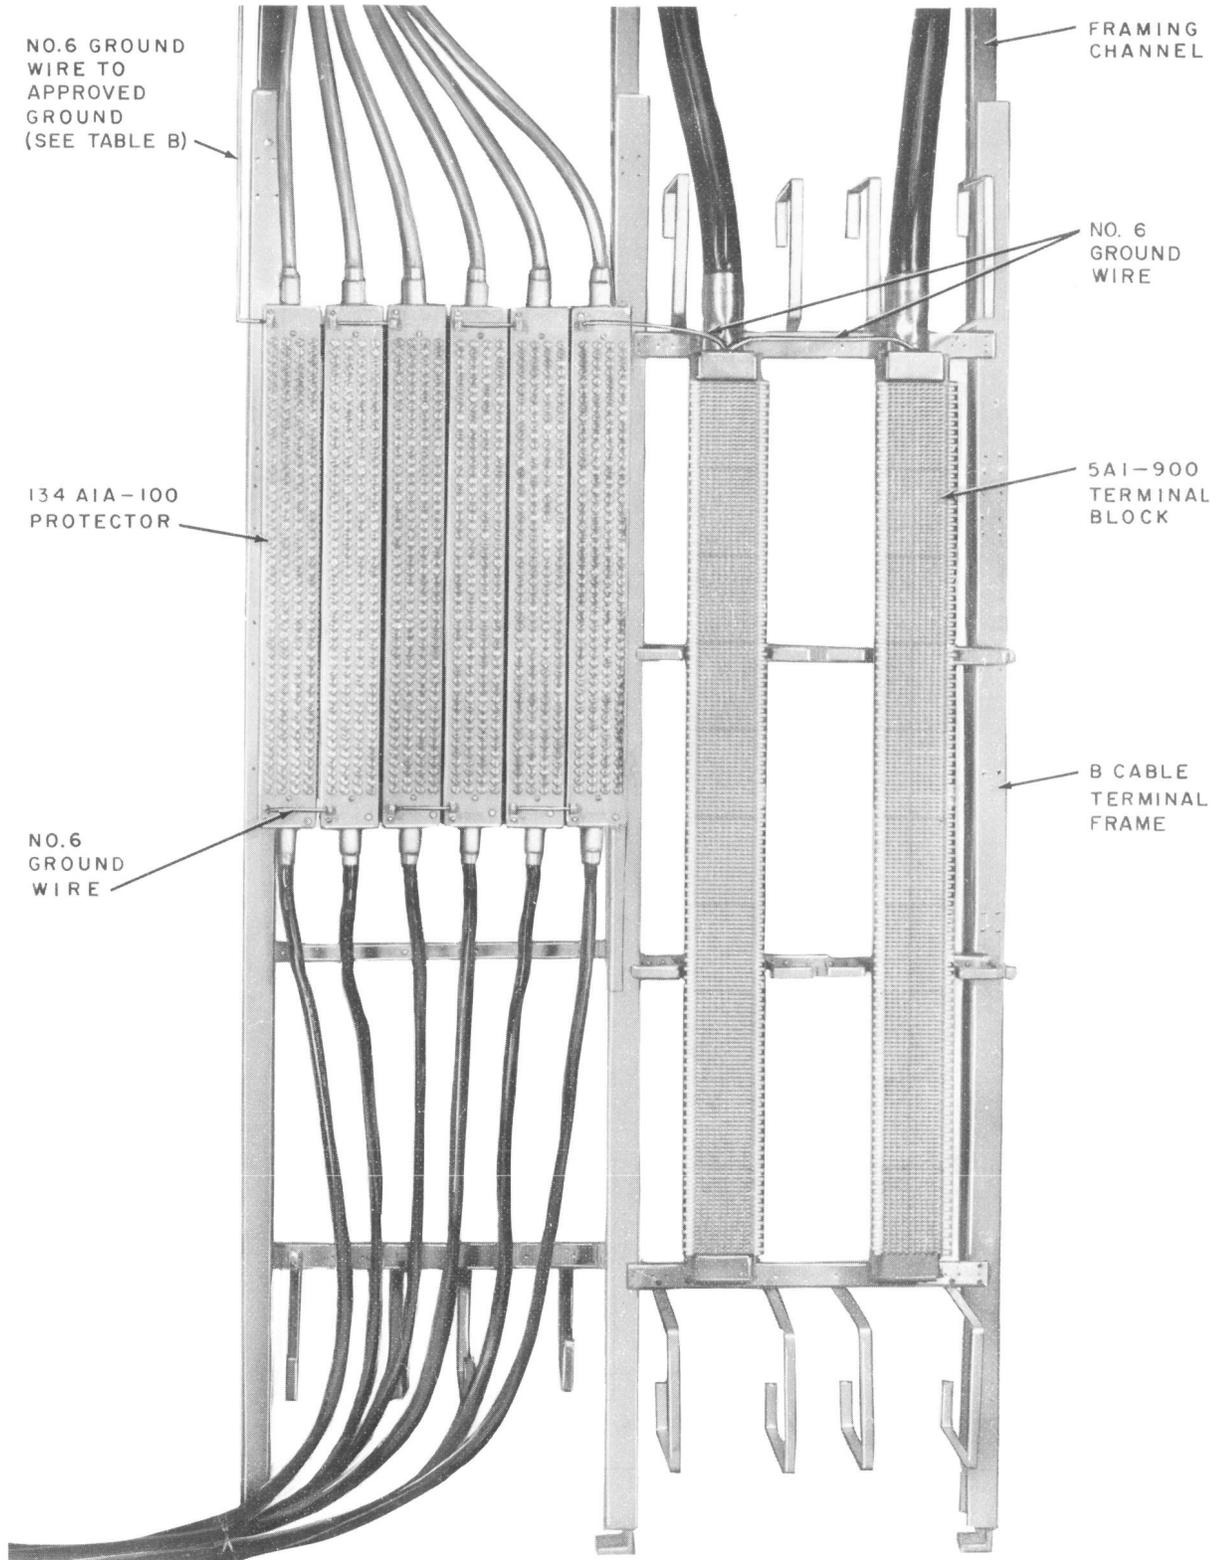

Fig. 16—134-Type Protectors and 5A Terminal Mounted on B Cable Terminal Frame
**4.24** Figure 16 illustrates the 134-type protector and 5A-type terminal mounted on the B cable terminal frame at locations where no mechanical protection is required. Refer to Section 631-400-105 for other typical arrangements.